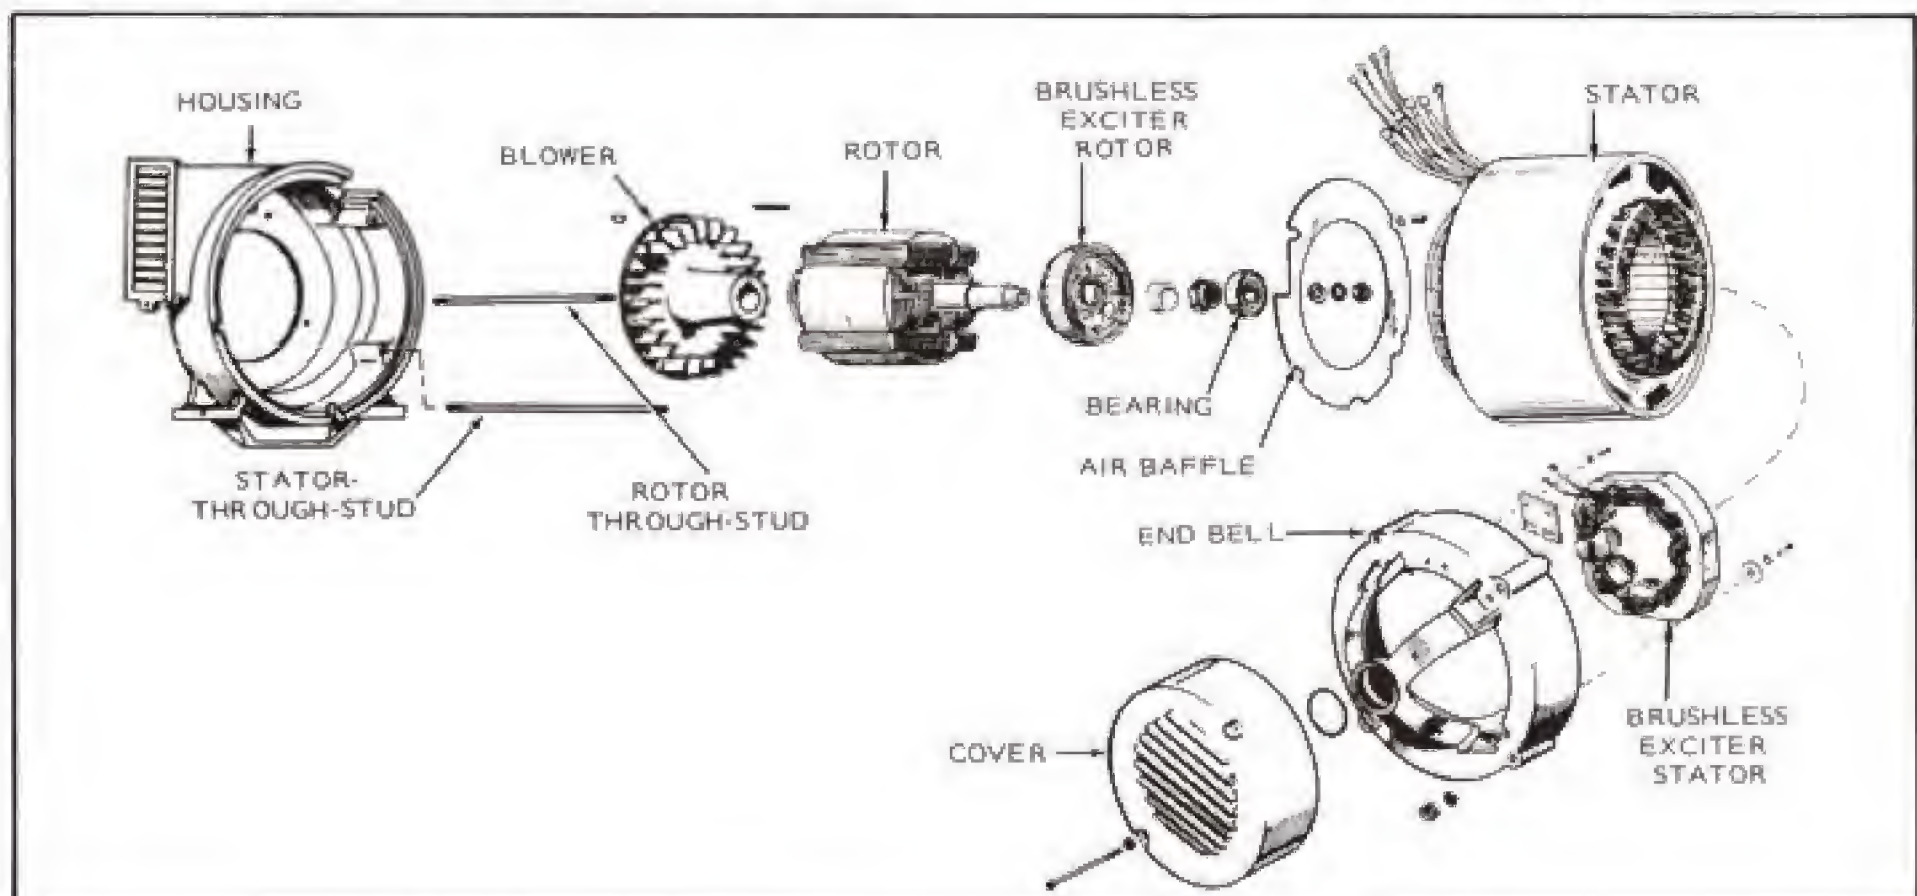

FIGURE 4-35. GENERATOR DISASSEMBLY
5. Remove stator-through-stud nuts, end bell, and stator assembly, Figure 4-35. Screwdriver slots in